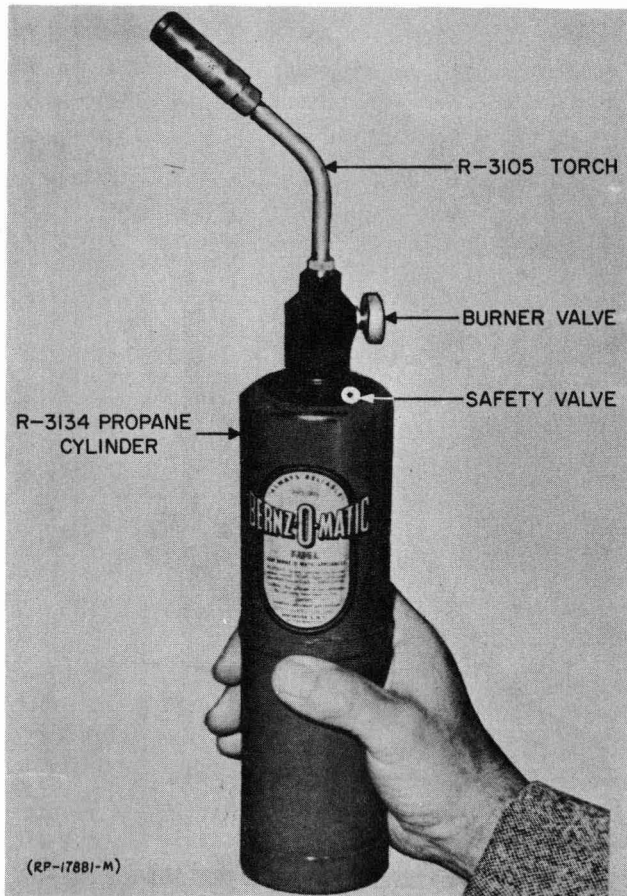

FIG. 2 C CLAMP USED TO HOLD LUG WHILE SWEATING (PARS. 2.42, 5.12)
2.42 Wrap the lug holding tool with strips of cloth and hold in place with friction tape to prevent heat from affecting the hand. See Figure 2.
5.12 Additional preparation for torch: Hold the lug during the sweating operation with a R-1748 or R-1455 C clamp as illustrated in Figure 2 or with